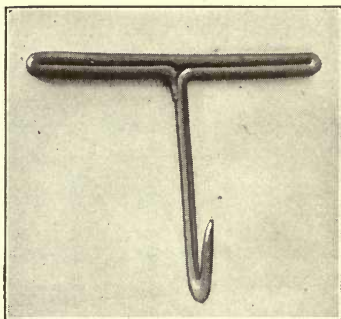

FIG. 48. SCALDING HOOK.
10. Weld one-half of the double bar handle slightly, as shown in Fig. 48. Then weld the other half.